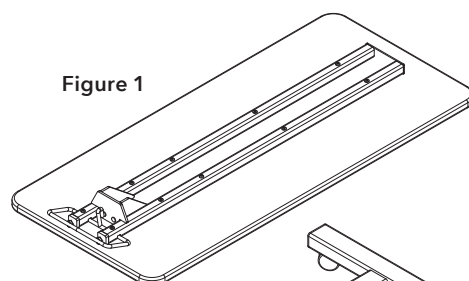

Figure 1
1. Position the Table Top on a solid, unobstructed surface with Top Support Bracket as illustrated (See Fig. 1).